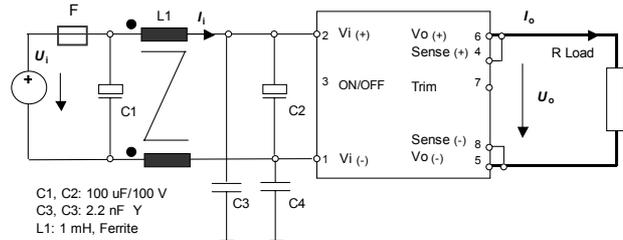

Figure 44: TXS with a one stage input filter.
Figure 48: TXS100ZB-N with a one stage input filter according figure 44 and an inductor in the ground line to the output.  $L2 = 9.6$  mH,  $\mu_1 = 50'000$ , (VAC W620)
- The EMI measurements have been done with a one stage input filter according to Figure 44.